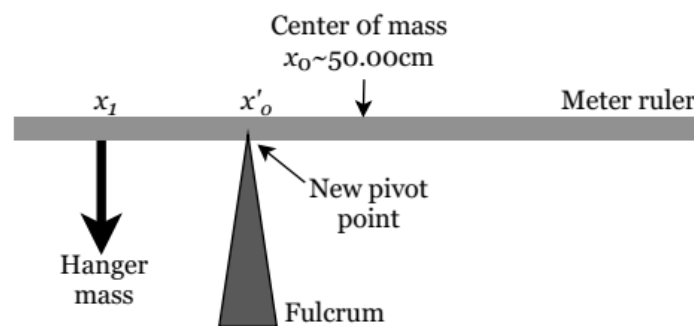

Figure 2 Experiment setup to investigate the mass of the meter stick
- 4) Consider figure 2 and describe all the forces acts on the meter ruler?
- 5) Consider figure 2 and describe torque balance equation?